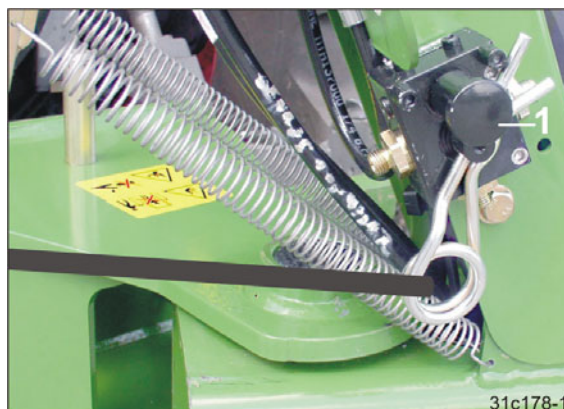

Fig. 143
- 3.1 Actuate the valve (Fig. 143/1). This empties the hydraulic accumulator.